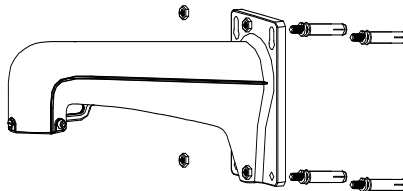

Figure 2-4 Secure the Bracket
- The bracket in Figure 2-4 is the recommended bracket for this series of speed dome, and a pendant adapter is required if any other bracket is selected. The dimension of pendant adapter is $G1\frac{1}{2}$.